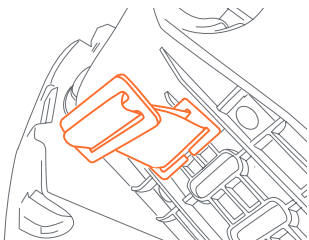

Fig. 33-3
3. View from underside. Pull slack as needed (Fig. 33-3).